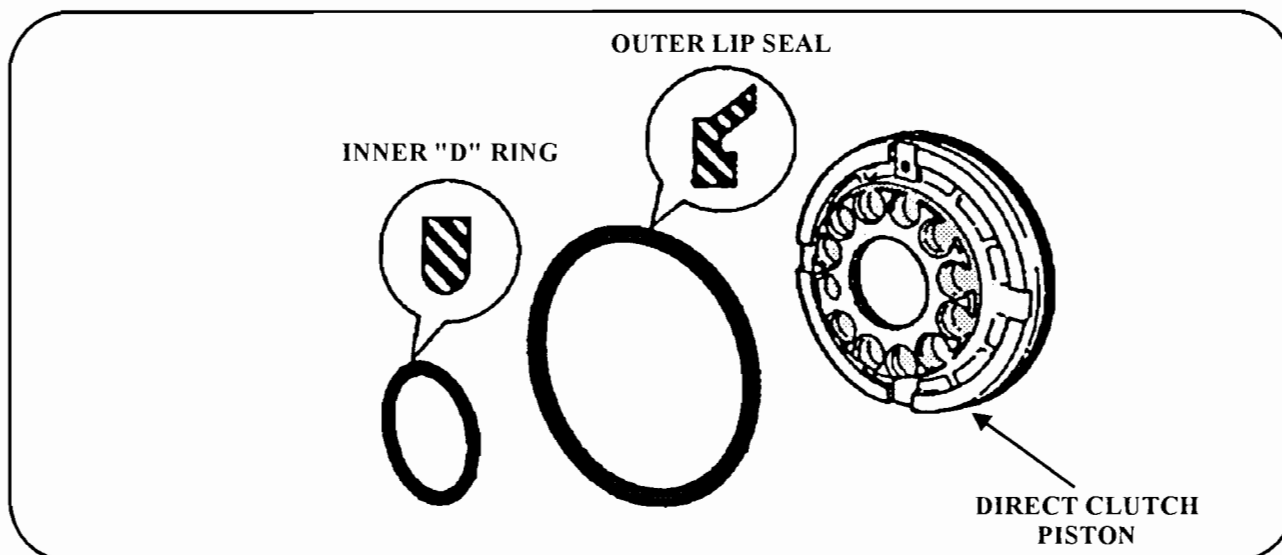

Figure 51
**CAUSE:** #1-It has been determined that the inner "D" ring on the direct clutch piston wears badly and/or shrinks, creating a leak of direct clutch oil at the inner seal. (See figure 51)